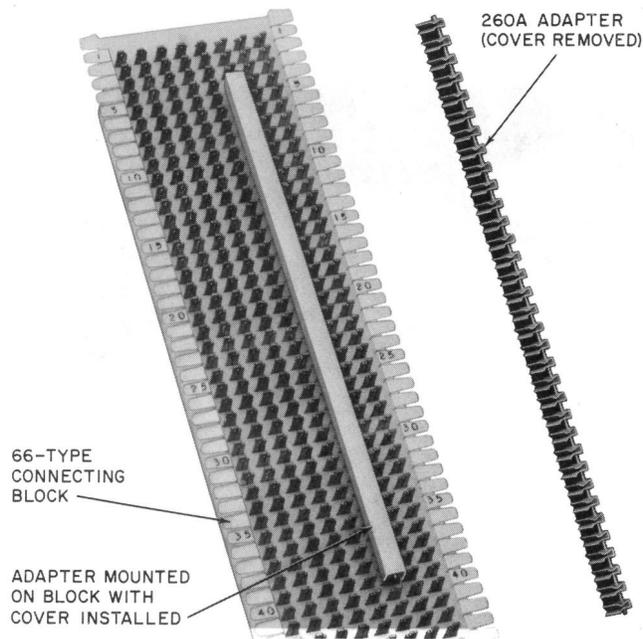

Fig. 16—260A Adapter Installed on 66-Type Connecting Block
4.07 The 260A adapter (Fig. 16) consists of 50 clips wired together in a vertical column and protected with a plastic cover. It is used to strap together up to 50 adjacent terminals in a vertical column on a 66-type block.